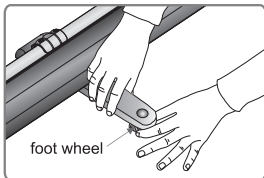

Figure 11
5. Adjust the foot wheel when the ground is not even. Clockwise rotation raises the foot while counter clockwise rotation lowers the foot, with limits of five circles or within 8mm (Figure 11 - 12).